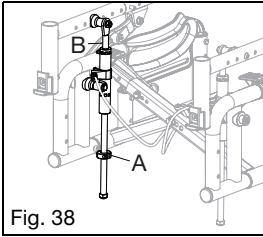

Fig. 38
1. Remove the screws from the tilt stops and install onto the shaft of the mech lock. Reinstall the screws, but do not tighten (Fig. 38:A). Repeat for opposite mech lock.
3. For limiting rearward tilt, slide the tilt stop to the bottom of the mech lock body and tighten into the place. For limiting forward tilt, the tilt stops may be placed above the body of the mech lock (Fig. 38:B). When the desired angle is achieved, slide the tilt stop against the top of the mech lock body and tighten.